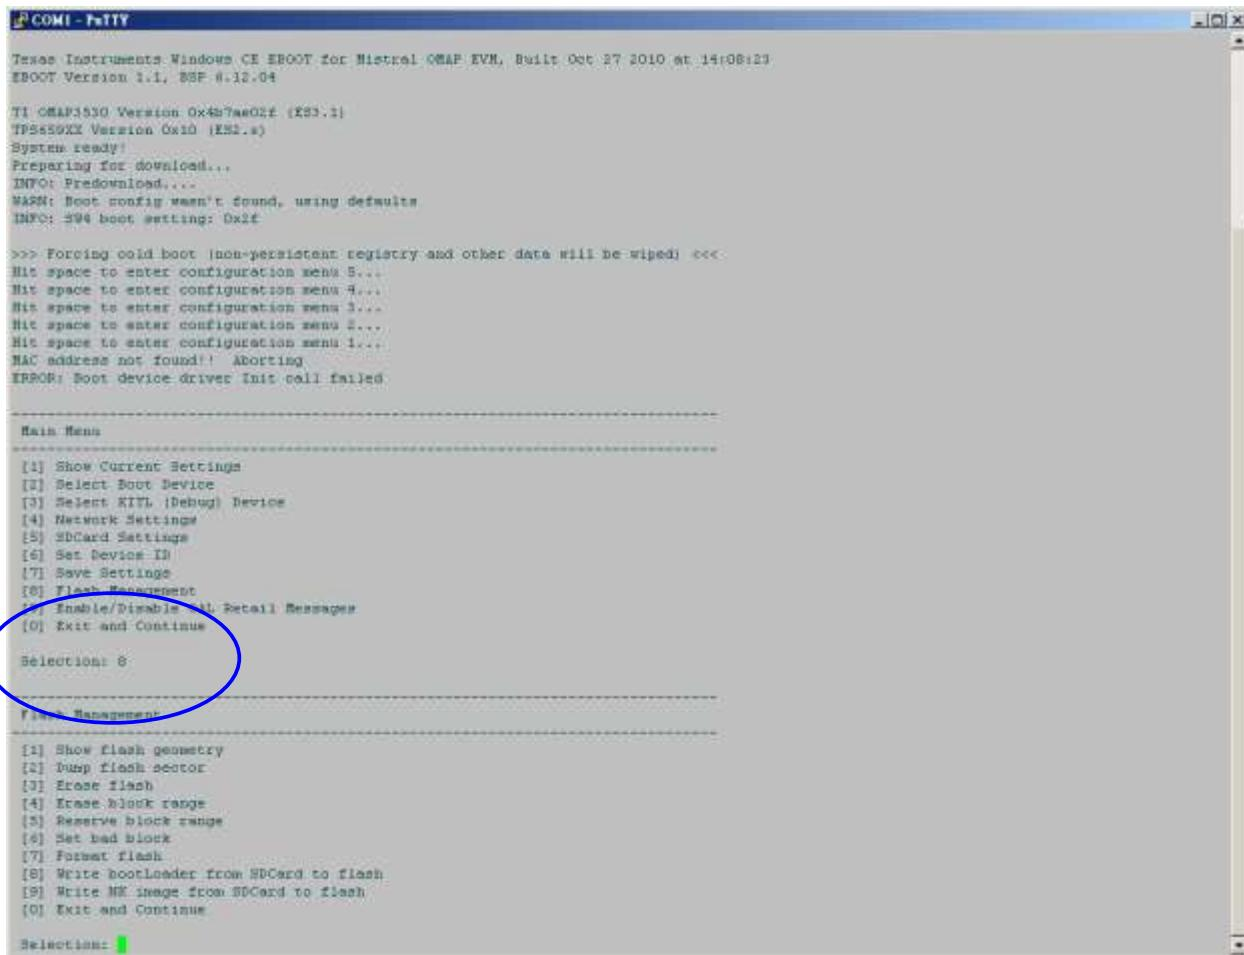

Figure 108
- Chose “Flash Management”. (See Figure 108)